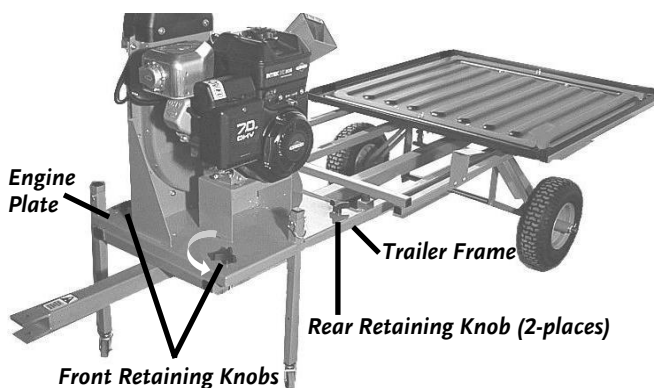

Figure 48
4. Remove (turn counterclockwise) the two (2) Rear Retaining Knobs holding the Engine Plate to the Trailer Frame (**Figure 48**).
5. Hold the trailer tongue and remove the two (2) Front Retaining Knobs (**Figure 48**), thus preventing the trailer from falling when the last knob is removed.